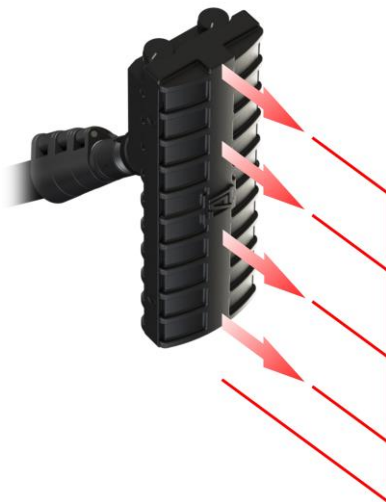

fig.5
mode is shown in fig.5 (the direction to the search object is indicated by arrows). The recommended speed of movement of the main unit relative to the object being inspected is 3-5 cm/sec.
5. Bring the main unit to the examination object, orienting the device as shown in fig.5.